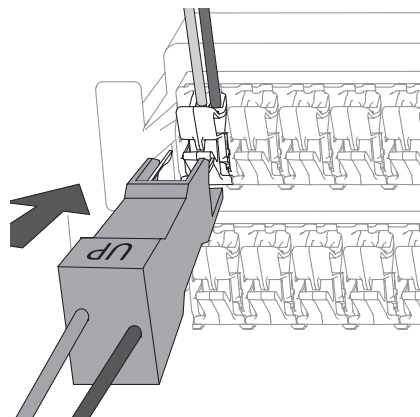

Figure 15
1. The test clip is tethered to and stored on the back of the block. Place the test clip over a toggle so that the alignment tab slides along the hinge side of the toggle. Push test clip onto the toggle until it locks into place. (Figure 15)